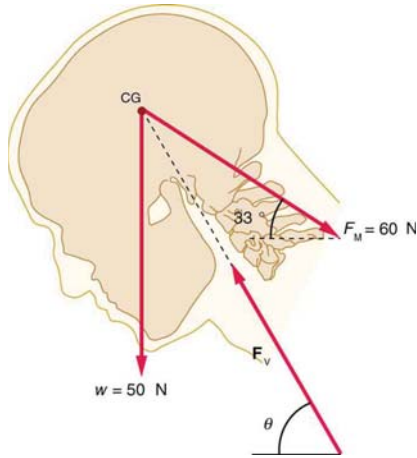

Figure 9.39
30. A person working at a drafting board may hold her head as shown in **Figure 9.39**, requiring muscle action to support the head. The three major acting forces are shown. Calculate the direction and magnitude of the force supplied by the upper vertebrae F_V to hold the head stationary, assuming that this force acts along a line through the center of mass as do the weight and muscle force.